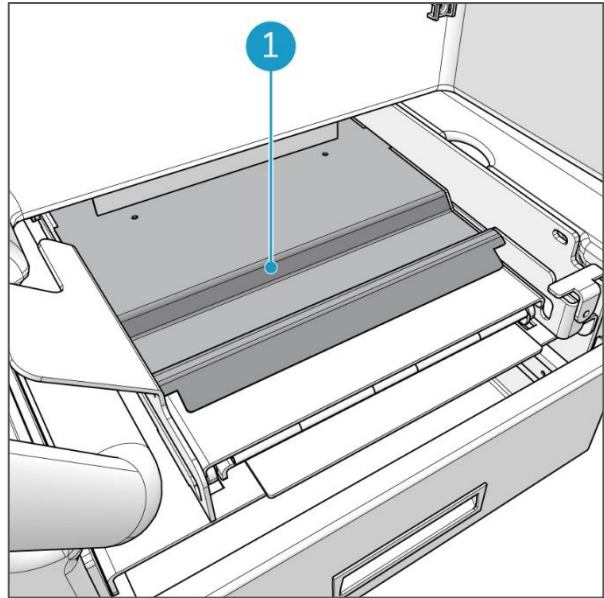

Figure 63
Wipe the plateau on which the wheels of the i-mop lite rest (Figure 63, pos 1) with a damp cloth.